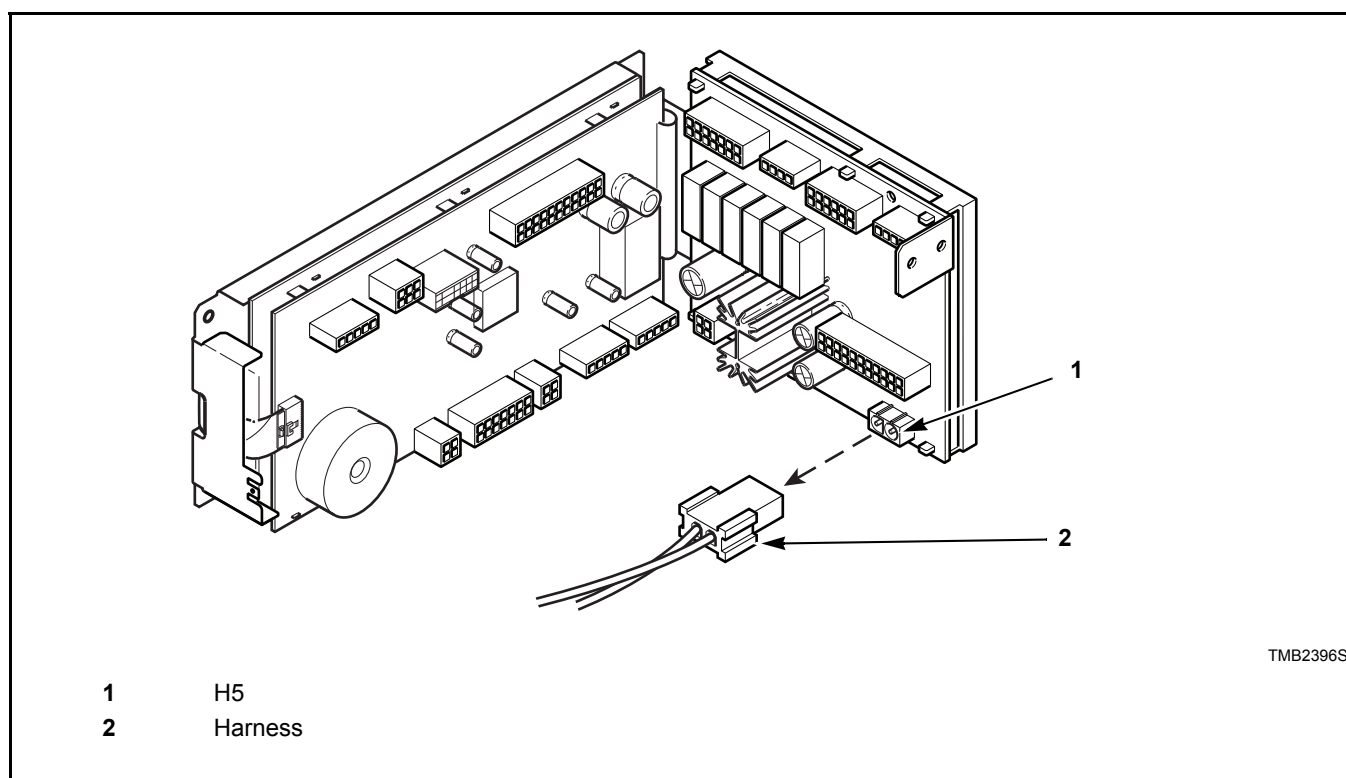

Figure 25
1. On the control board, unplug the harness from header H5 (Refer to *Figure 25*).
1. At the control, unplug harness at header H5 (Refer to *Figure 25*).